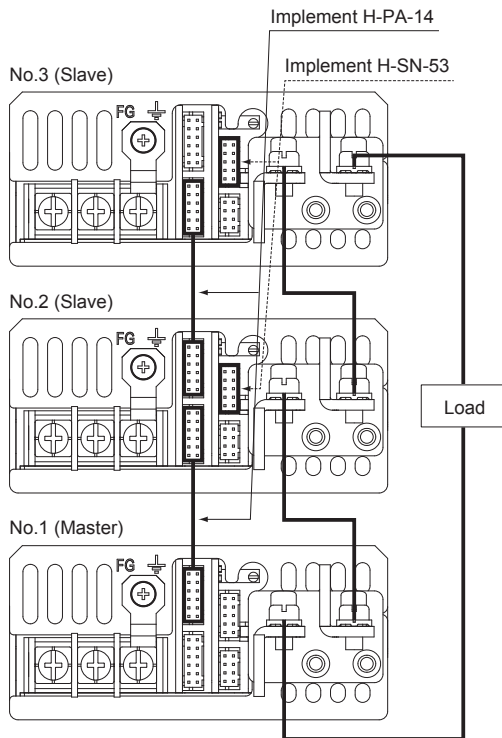

Fig.4.1 Connection method in series
■ Wiring method with series operation is shown in Fig.4.1.